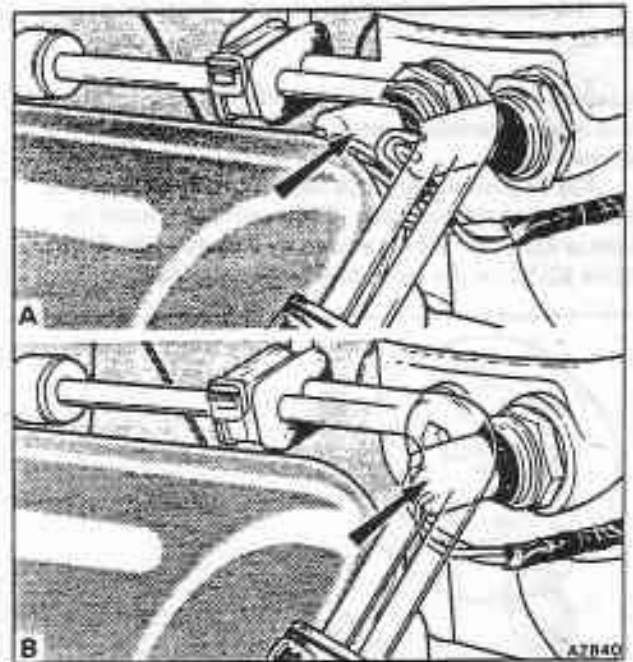

Fig. B2-37 Acceleration enrichment temperature switch
4. If the coolant temperature is above 33°C (91°F), bridge the system temperature switch situated in the thermostat housing (see fig. B2-37).